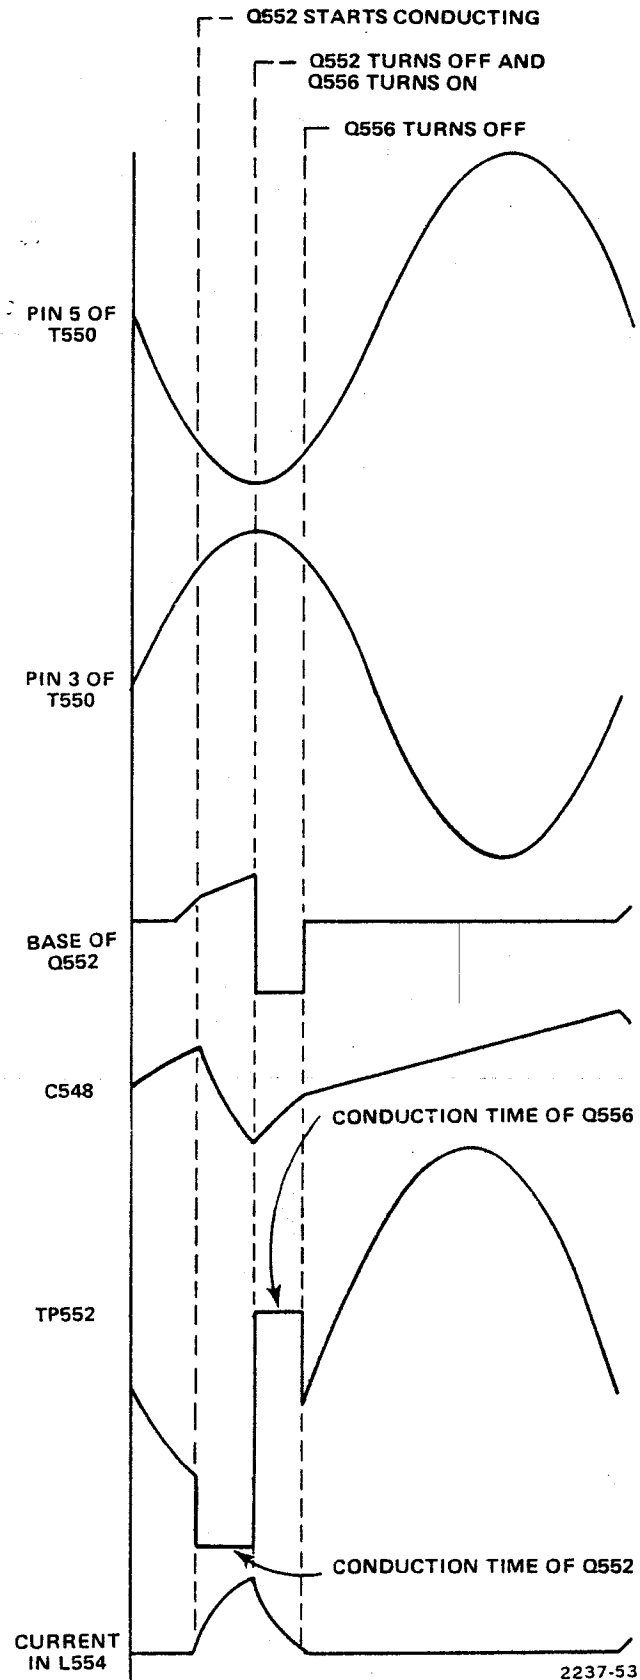

Figure 4-13. Waveforms produced in the high voltage oscillator
**(2) Crt Circuit.** Diagram 8 (FO-10) shows the CRT Circuit. The CRT Circuit provides the high voltage levels needed to operate the crt. The CRT Circuit consists of the high voltage oscillator, high voltage regulator, high voltage rectifier, high voltage multiplier, and dc restorer.
**(a) High Voltage Oscillator.** The high voltage oscillator consists of Q552, Q556, T550 and associated circuitry. Figure 4-13 shows the waveforms produced in the high voltage oscillator.
2 As the  $-2$  kV supply goes more negative it pulls the base of Q554 less positive. The collector of Q544 goes more positive which decreases the collector current of Q548. Transistor Q548 supplies charge current to C548. Because the collector current of Q548 is decreased, C548 charges more slowly. As a result, the voltage on pin 3 of T550 will not become positive enough to turn on Q552 until later in the oscillation cycle (see Figure 4-13). Therefore less energy is stored in L554 and transferred to the primary of T550 when Q556 turns on. This decreases the amount of energy transferred to the secondary of T550 which causes the  $-2$  kV supply to go less negative.